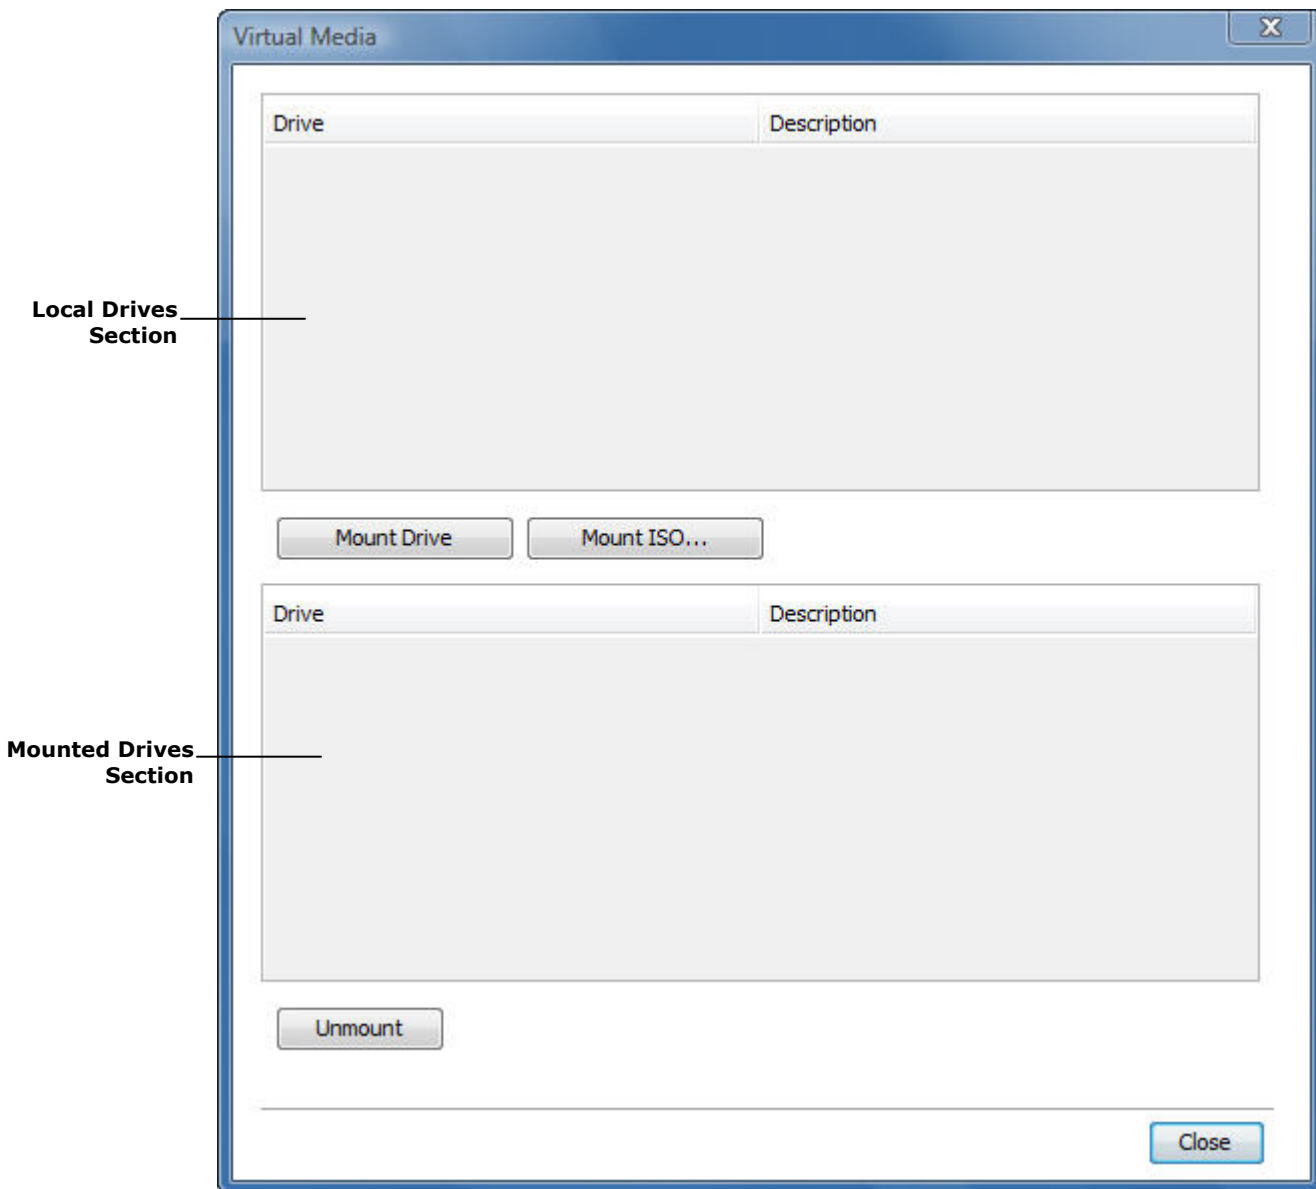

Figure 31 – Virtual Media
1. In the Virtual Media page (see Figure 31), click **Mount ISO**.